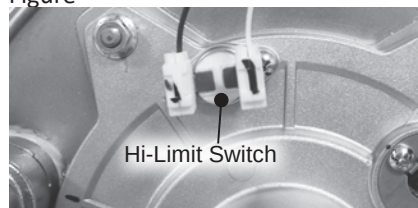

Figure 23 - Hi-Limit location
- 4 Locate the burner door hi-limit on the burner assembly as shown in Figure 23. Disconnect the two (2) wire leads (labeled HI-LIMIT 1) from the hi-limit assembly and route them inside the water heater cabinet for ease of access to hi-limit. See Figure 23. Figure